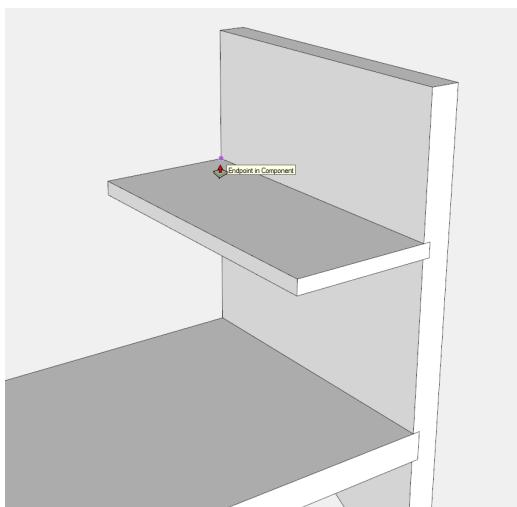
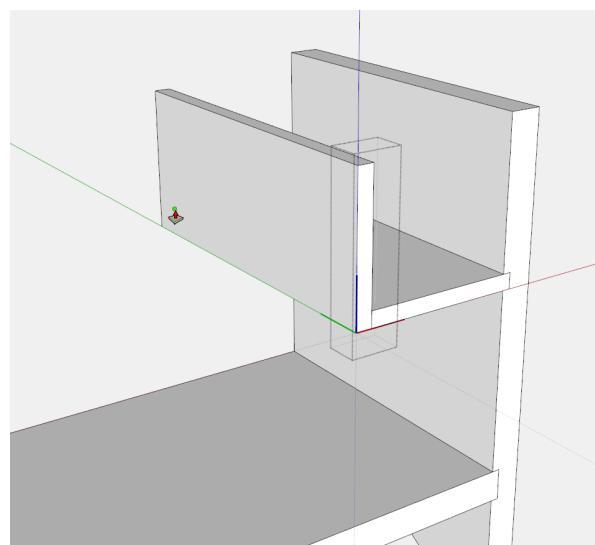

Figure 18. Make the Till Bottom component.
Figure 19. Make the Till Front component.
Step 7 To open access for making the Till components, right click on the Front and Back and choose Hide from the menu. To create the Till Bottom, draw a rectangle for the front edge as it protrudes into the End groove. Then use the Push/Pull Tool to give it length equal to the width of the End. See Figure 18. The Till Front is made in the same way as shown in Figure 19.